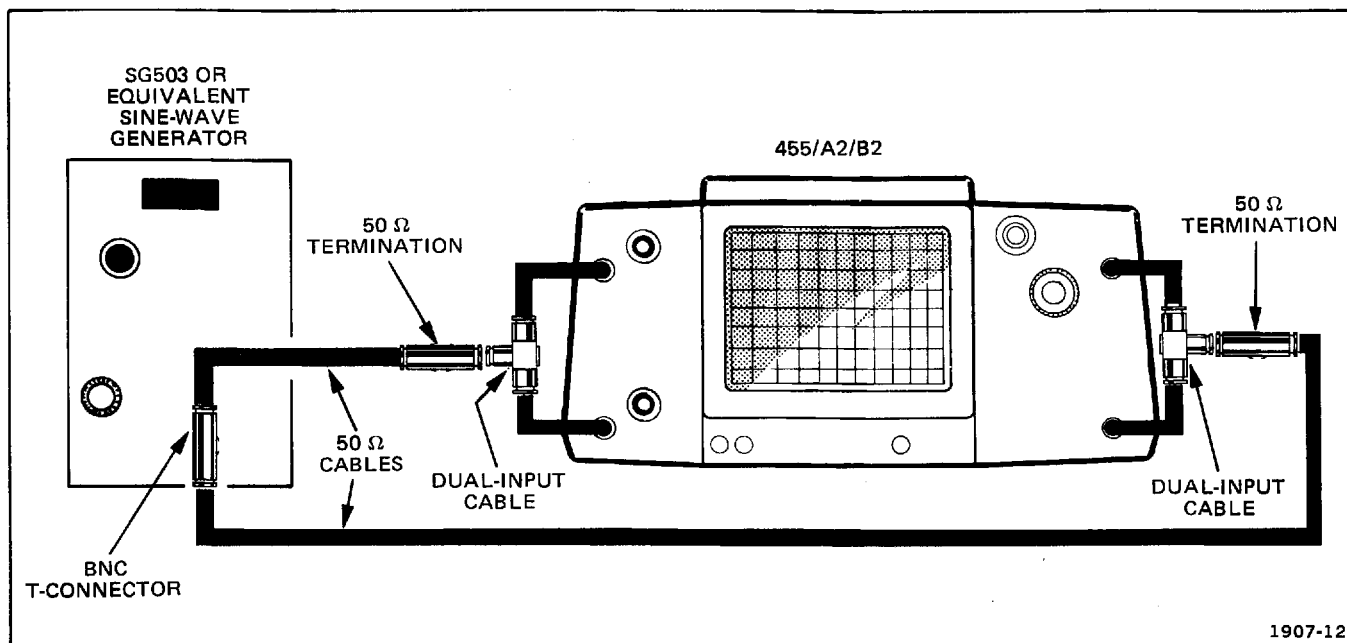

Fig. 3-5. Sine-wave generator test setup #2.
b. Connect sine wave generator as shown in Fig. 3-5.